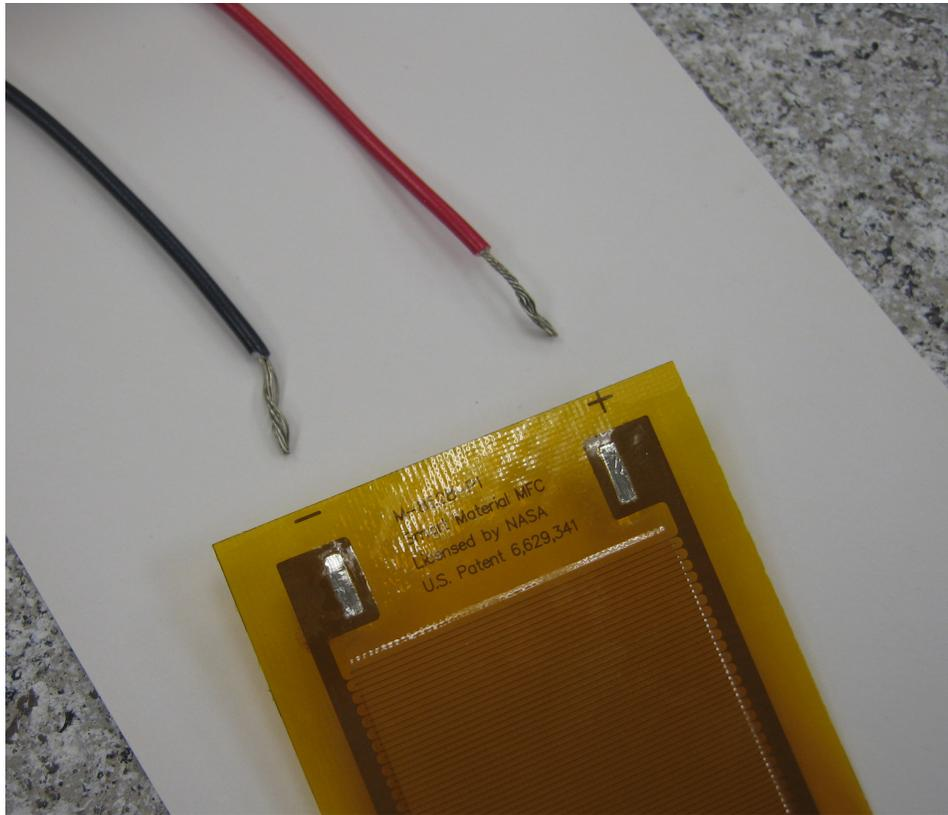

Figure 3-5: MFC positive and negative contact patches
- 16) Match the black wires with the negative contact areas and the red wires to the positive contact areas. See Figure 3-5.